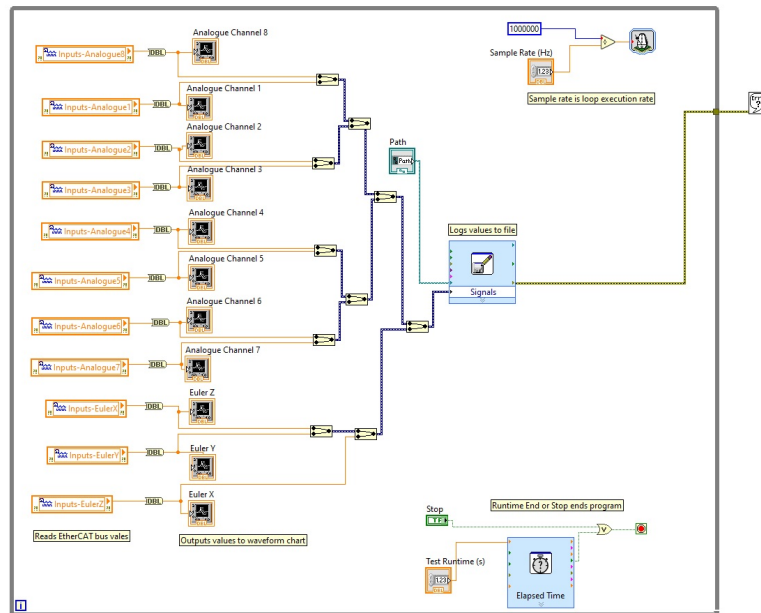

Figure 6: Finished Back Panel
4. Wire each channel to both a waveform chart and to a combined signal which is input to the Write to Measurement File Express VI (see figure 6)